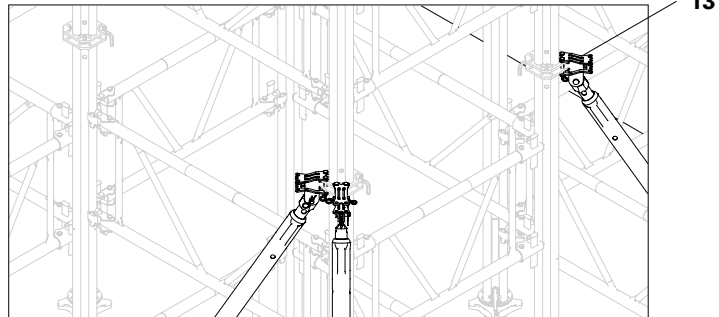

Fig. A5.03a
4. Install Push-Pull Props at the prop joints. (Fig. A5.03a)